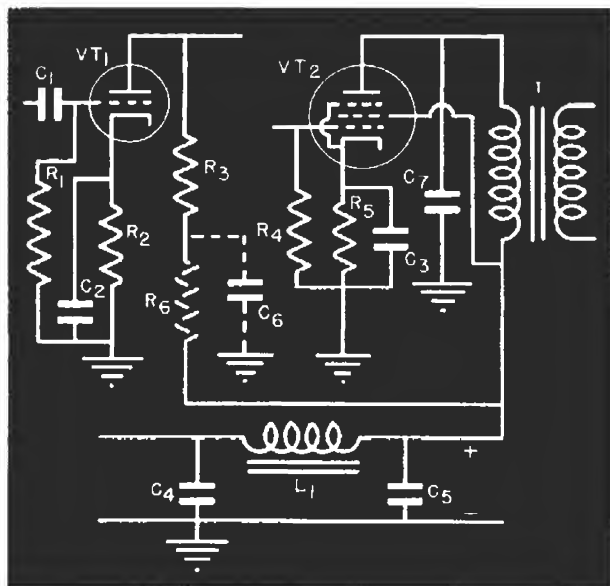

FIG. 22. Motorboating usually occurs in an audio amplifier which does not have decouplers R_4 - C_4 , or where this filter is ineffective.
a low impedance to cause feedback. For example, the a.c. plate circuit of the output tube in Fig. 22 traces from the plate, through the primary of transformer T , through condenser C_s , and then through C_s back to the cathode. Therefore, audio variations in this plate circuit will create a voltage drop across C_s , the amount depending on the strength of the variations and on the reactance of C_s . Since C_s is the output filter condenser of the power supply, this audio variation is impressed on other tube plate circuits.
► If either condenser C_2 or C_s in Fig. 22 opens, the variations in the plate current in that stage will develop an a.c. voltage drop across the cathode resistor. This drop will be introduced in the grid circuit; it will be out of phase with the grid voltage, and so will be a degenerative feedback. Such degeneration does not cause oscillation—in fact, it suppresses it. Manufacturers sometimes deliberately introduce this degeneration both to control oscillations and to flatten out the response characteristics of the amplifier. This must be done carefully, because too much will cause an excessive reduction in gain.